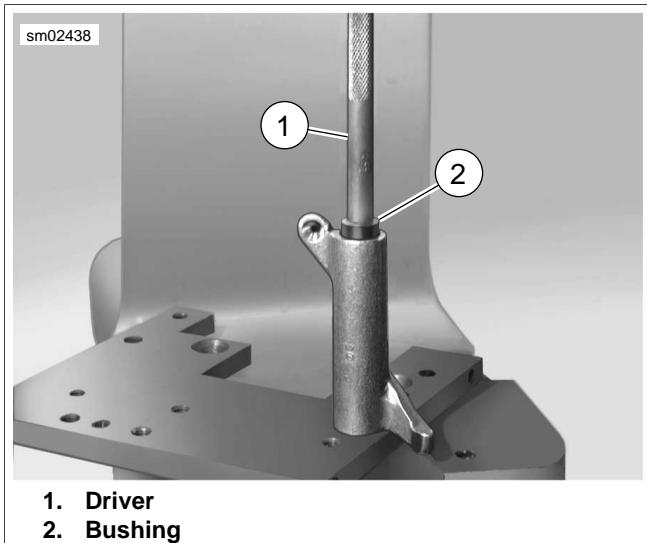

Figure 3-75. Installing Bushing
2. See Figure 3-75. Using a suitable driver, press **new** bushing into side of rocker arm until flush with casting. Be sure to orient bushing so that split line faces top of rocker arm.